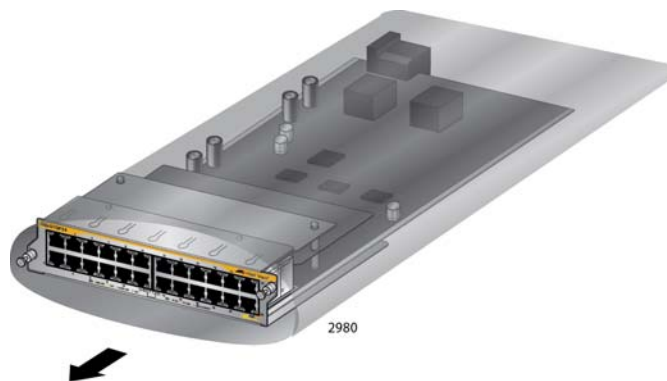

Figure 96. Removing the Ethernet Line Card from the Anti-static Bag
4. Carefully remove the Ethernet line card from the anti-static bag. Refer to Figure 96.